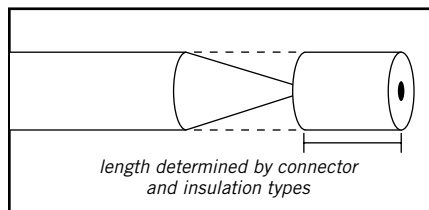

Figure 6
4. Penciling of the insulation requires a 360° perpendicular cut through all but the last 1/16" of insulation, and at a predetermined distance from the conductor end. This distance is directly dependent on the type of connector and type of cable insulation. Pencil and smooth the taper before removing the short section of insulation from the conductor. This buffer technique, illustrated in Figure 6, protects the conductor surface against undue abrasion and scoring.